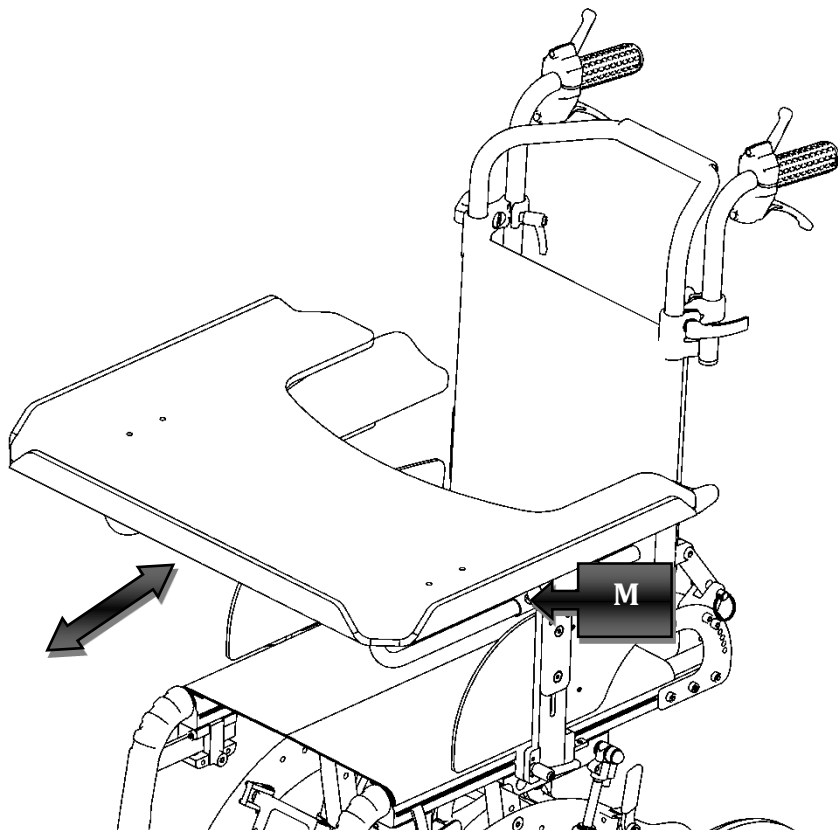

Figure 27
To remove it act on the handle (M) shown in Figure 27.